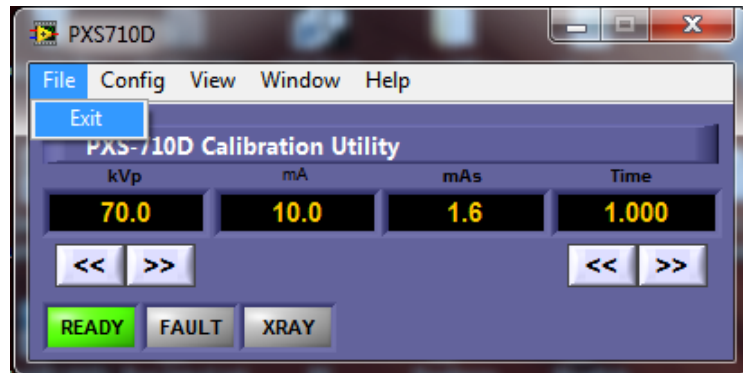

Figure 2.9
- o. Exit the 'Calibration Menu' by clicking 'EXIT'. Ref fig 2.9